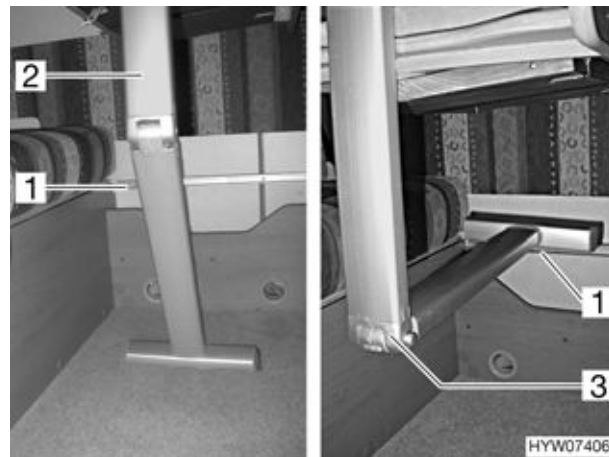

Fig. 64 Suspension table (variant 3)
- Unlock the table leg (Fig. 64,2) at the hinge and fold it in.
- Attach the suspension table onto the lower attachment rail (Fig. 64,1) and rest it onto the table leg hinge (Fig. 64,3).